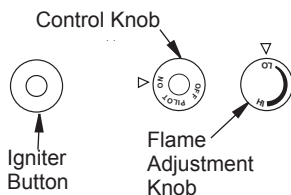

Figure 40 - Control Knob and Igniter Button Location
to the OFF position (see **Figure 40**).
- Wait five (5) minutes to clear out any gas. Then smell for gas, including near the floor. If you smell gas, STOP! Follow B in the safety information, **Page 24**. If you don't smell gas, go to the next step.
- Press in and turn control knob counterclockwise  to the PILOT position. Press in control knob for five (5) seconds (see **Figure 40, Page 24**).